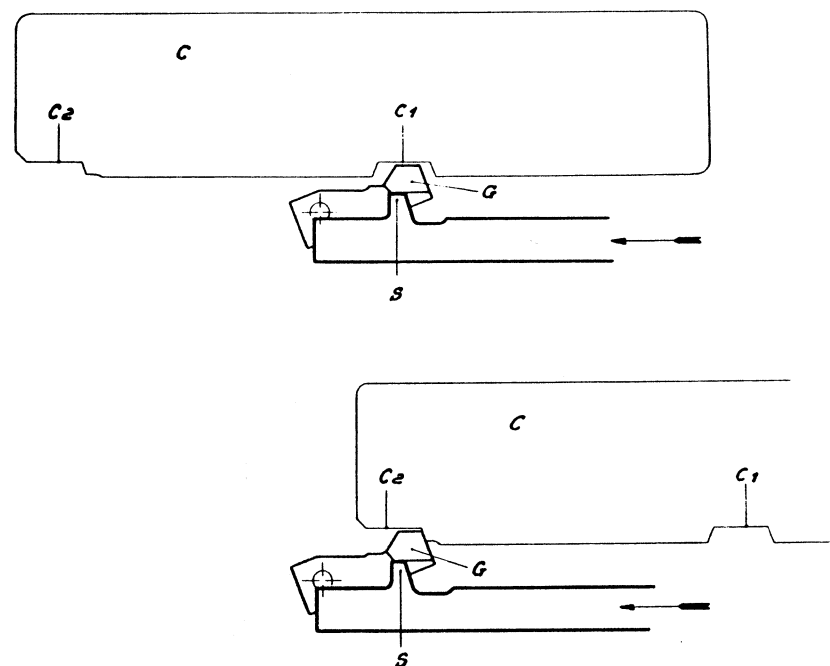

Fig. 9.
a) *Automatic safety, pistol grip.* — The safety sear fulfils two functions (fig. 9).